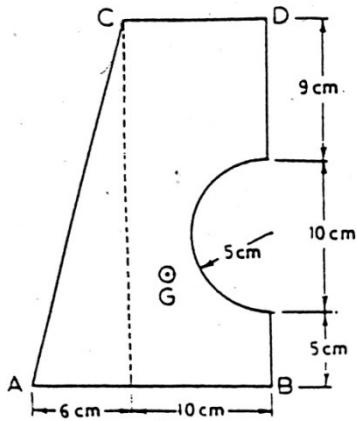

Figure 3.12
12. A plane lamina ABCD is hung freely from point D. Find the angle made by DB with the vertical. (Figure 3.12)